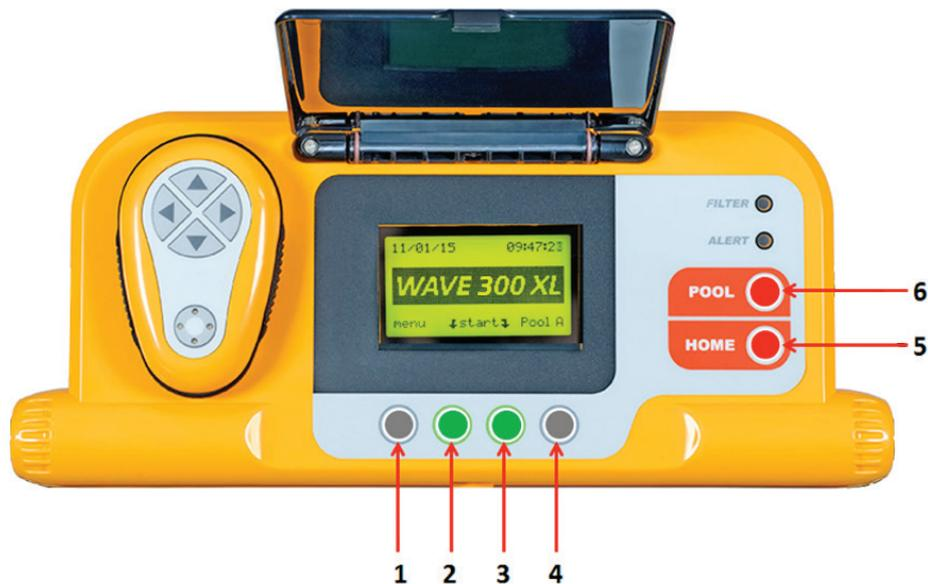

Figure 4: MMI Console
- In this user manual, the term **Press Start** means to simultaneously press both green buttons on the MMI console (marked **2** and **3** in the Figure 4).
- The MMI is equipped with a screensaver that is displayed after 5 minutes of idle time. Press the **POOL** and **HOME** buttons (marked **5** and **6** in Figure 4) to exit the screensaver mode.
- Some options in the MMI (pool profile setup) menus are blocked with a code to prevent changing the setting accidentally. The code sequence for unblocking these options is: **3, 2, and 1** (Figure 4).
- **Alert:** This Alert LED lights up to indicate an error that stops the robot from functioning. In such cases, inspect the robot to locate the problem and if it can be fixed, start the robot again. If the error repeats itself, then details of the specific error are displayed on the MMI screen (Figure 4). If this occurs, contact your Maytronics dealer immediately.
2. Wait for the *Wave 300 XL* screens to appear. Press **Start** (press both green buttons, marked **2** and **3**, in Figure 4, simultaneously). The cleaning session begins.
3. To stop the cleaning session at any time, press the right grey button, marked **4**, in Figure 4.